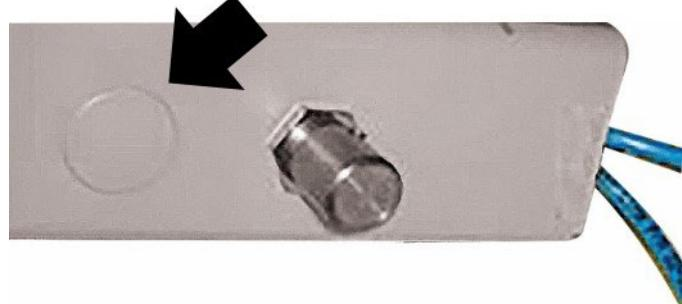

Fig. 7
- 11 Locate the knockouts along the side of the system in the baseplate. Remove one of the knockouts and install the flow control using the provided 9/16" nut to secure. (Fig. 7)